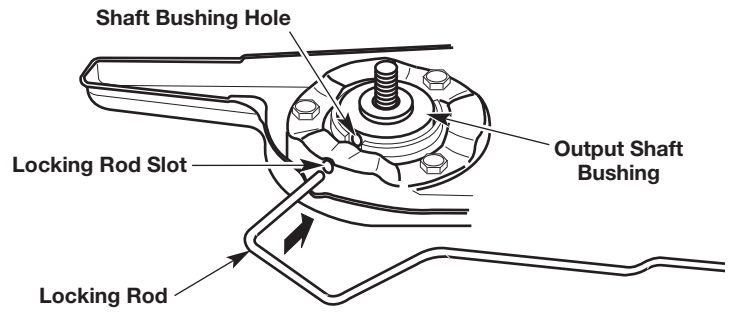
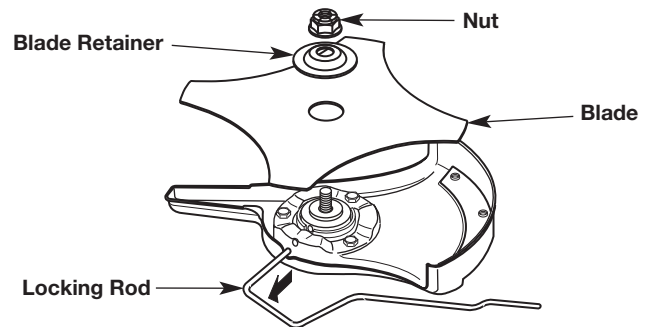
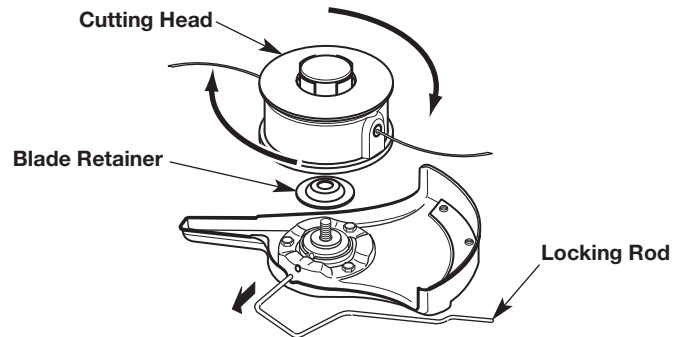

Fig. 10
Fig. 12
Fig. 15
1. Rotate the blade (Fig. 12) until the shaft bushing hole aligns with the locking rod slot (Fig. 10).
2. Insert the locking rod through the locking rod slot and into the shaft bushing hole (Fig. 10).
5. Remove the locking rod (Fig. 12).
6. Remove the blade retainer and blade (Fig. 12).
1. Rotate the output shaft bushing until the shaft bushing hole aligns with the locking rod slot (Fig. 10).
2. Rotate the cutting head (Fig. 15) until the shaft bushing hole aligns with the locking rod slot (Fig. 10).
3. Insert the locking rod through the locking rod slot and into the shaft bushing hole (Fig. 10).
5. While holding the locking rod in place, unscrew the cutting head by turning it clockwise (Fig. 15).
6. Remove the locking rod (Fig. 15).
7. Remove the blade retainer (Fig. 15).